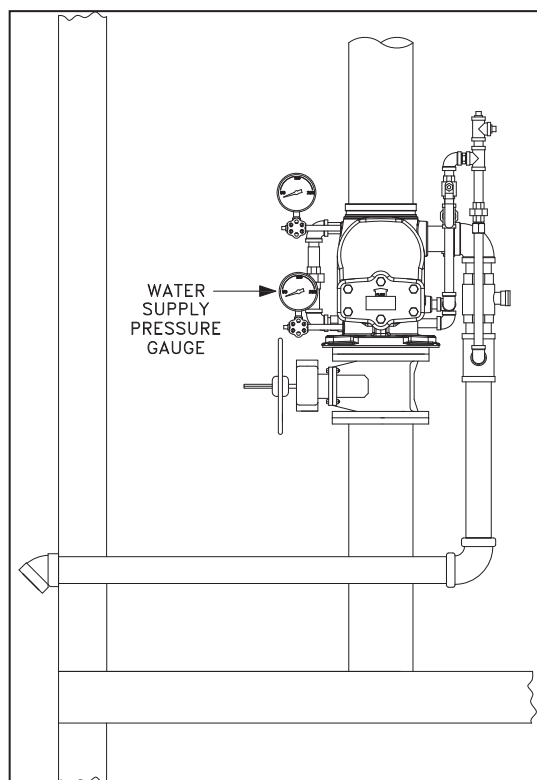

Figure 42
6. When a full flow is developed from the main drain, record the residual pressure from the water supply pressure gauge (Figure 42).